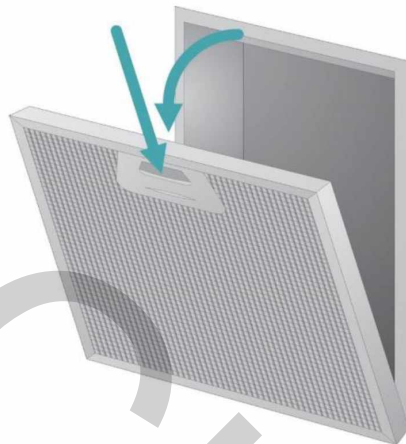

Fig. 12 Remove of aluminum grease filter
1. Press the latches of grease filter and remove it. (Fig. 12)